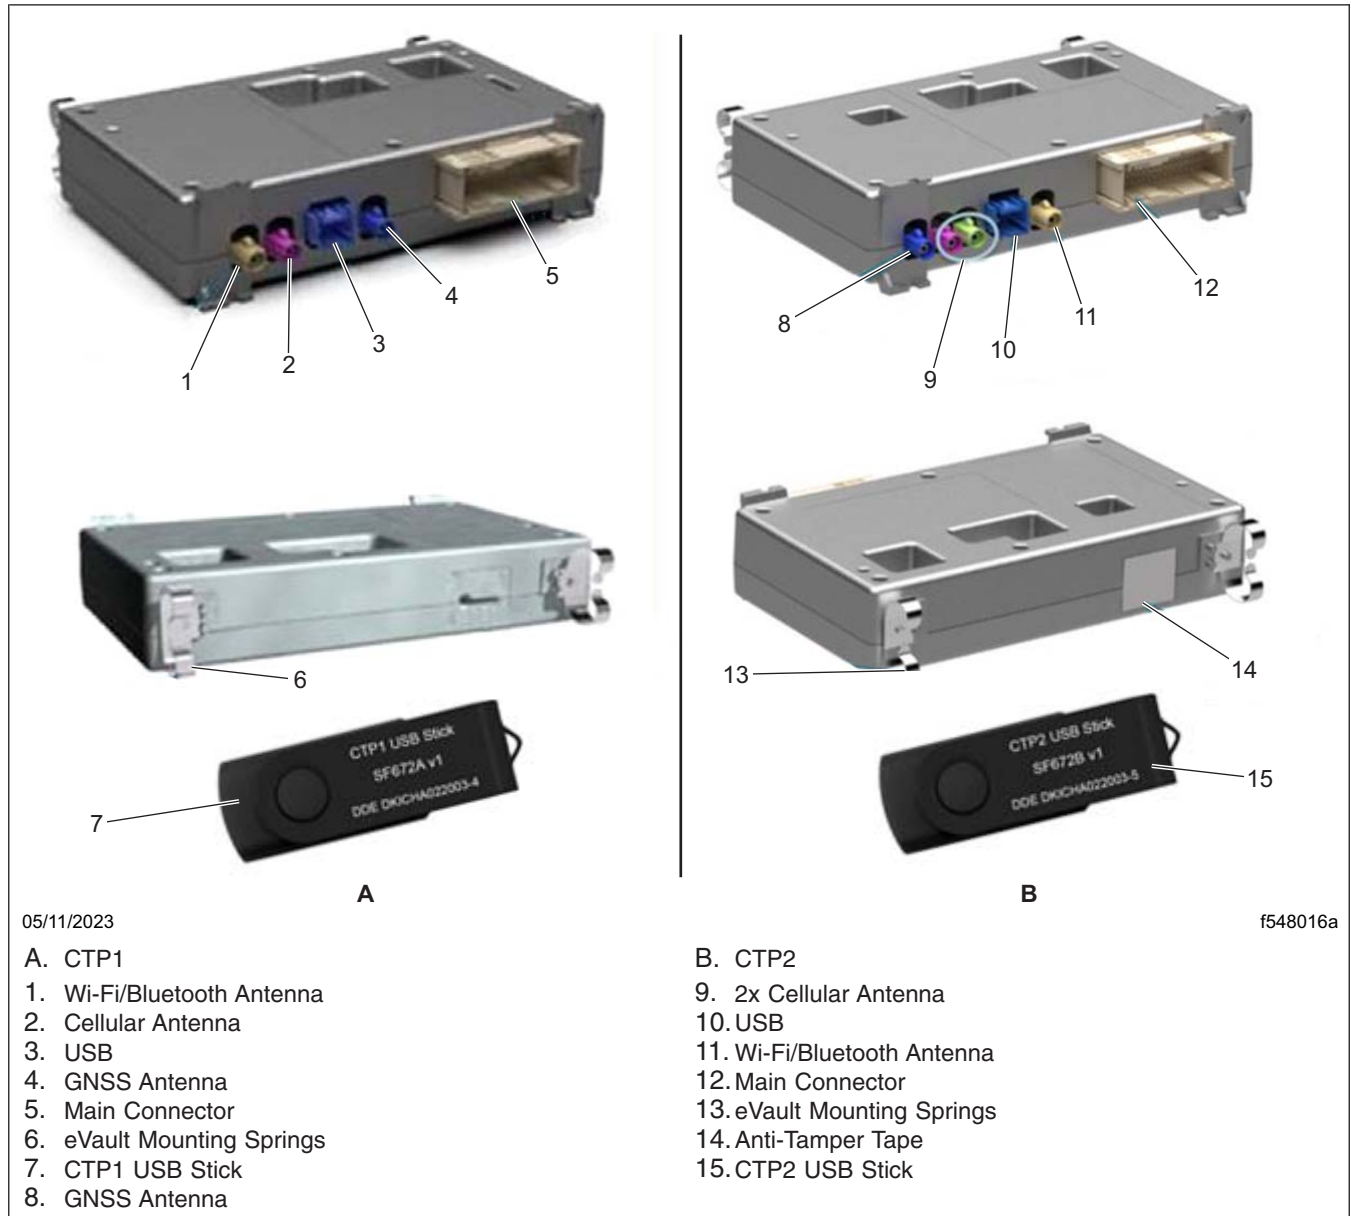
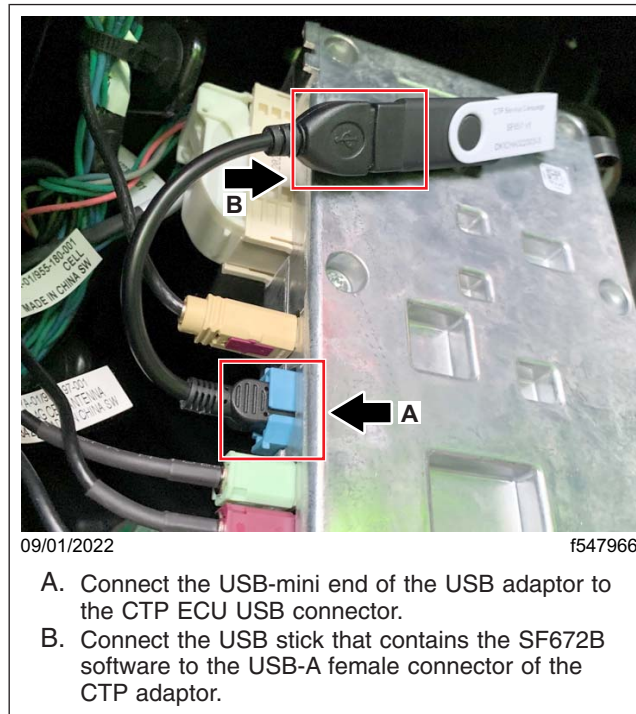

Fig. 28, CPT1 and CTP2 Connections
Fig. 29, USB Stick Connected to CTP2
14. Locate the CTP2 on the upper shelf in the electronics bay. Use **Fig. 28** to confirm that a CTP2 is installed and can be updated using the SF672B/CTP2 USB stick (DDE DKICHA022003-5). Use a USB mini-to-USB A adaptor (DKICHA022003-1) to connect the SF672B/CTP2 USB stick (DDE DKICHA022003-5) containing the SF672B software to the CTP2 at the large blue USB mini connector. See **Fig. 29**.